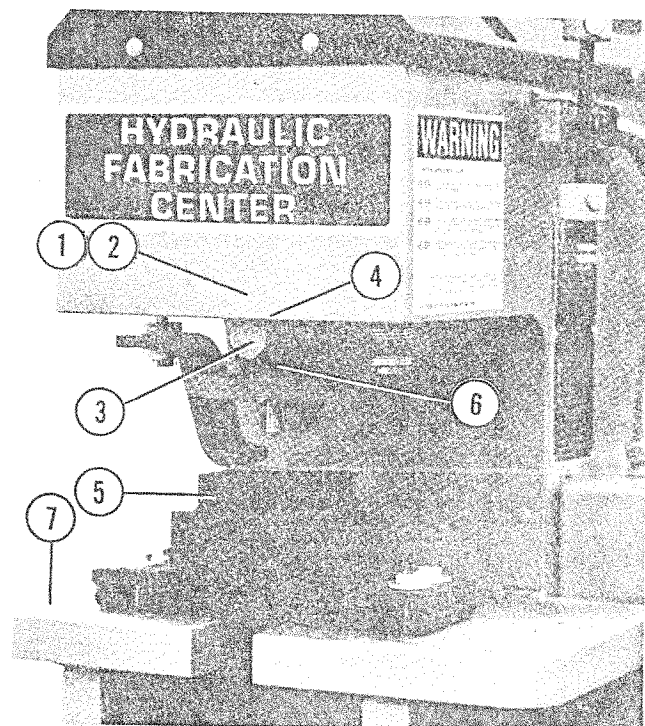

Figure 6
2. Depress foot switch and ram will move down for punch and die block location. See Fig. 6.
The shaft guide (Fig. 6) is necessary to prevent cylinder ram (and therefore punch) rotation. See also page 12, Ref. 23.
The punch coupler simply provides a method of attaching the punch to the cylinder shaft. The punch coupler nut secures the punch itself to the punch coupler (See Fig. 6).
The Die Holder Block is provided with clamps and hardware (see Fig. 6) to secure it to the platen.
Punch Installation and Die Alignment (See Fig. 6)